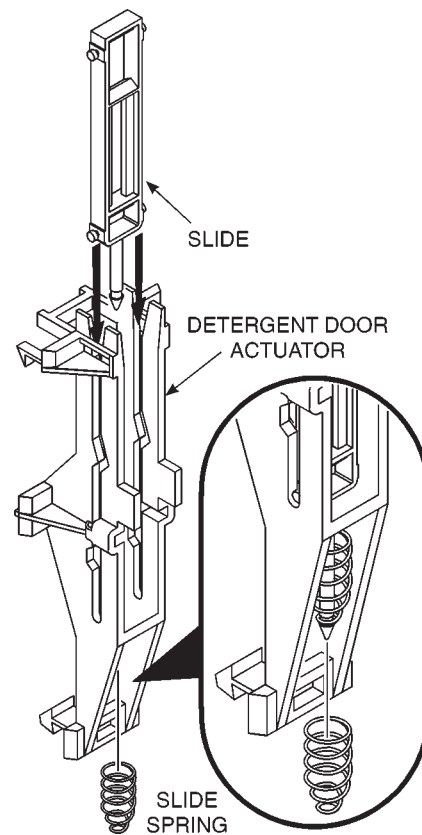

Fig. 3-15
11. Remove the upper slide, the slide spring and the lower slide. (Fig. 3-15)
1. Assemble the slide and slide spring to the detergent door actuator. (Fig. 3-15)